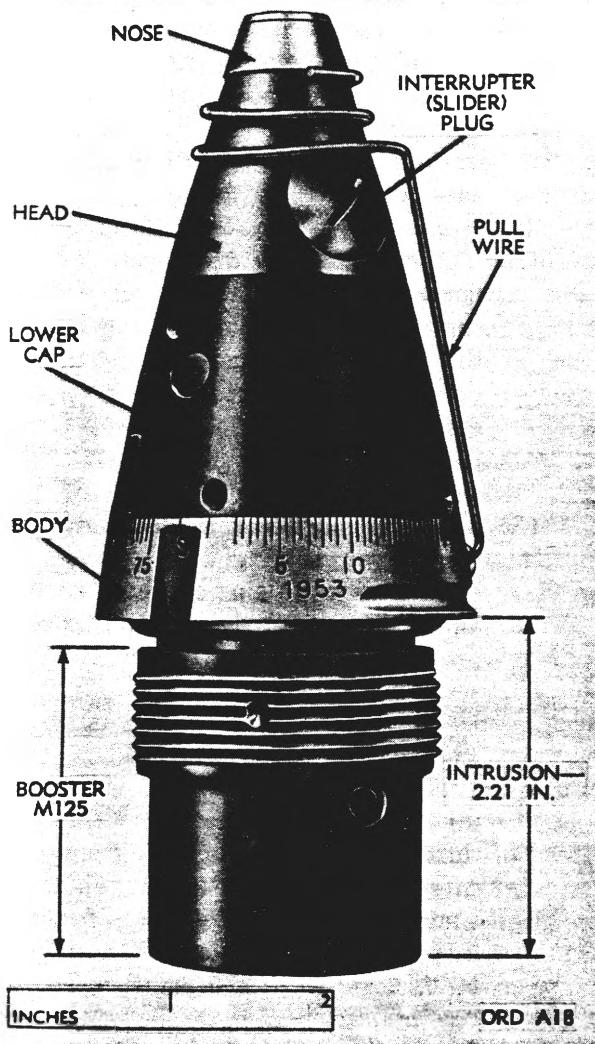

Figure 26. Fuze, mechanical time and superquick: M520.
*a. General.* This fuze (fig. 26) is a dual-purpose fuze which may be used as an alternative to point detonating fuze M51A5 in 4.2-inch high-explosive cartridge M329 or M329B1. It has a 75-second timing mechanism, a point detonator with superquick impact action, and a booster which has a delay arming clockwork mechanism for additional safety.
- (1) The movement assembly contains a clockwork mechanism which utilizes centrifugal force acting on two gear segment weights. Springs assist in overcoming inertia of the weights thereby insuring functioning of the fuze at relatively low as well as the higher rates of projectile spin.
- (2) The point detonator assembly which houses a superquick impact element, consists of the nose and the head of the fuze. The nose contains a point detonator firing pin and a support cup. The head contains an interrupter, detonator M22, and lead charge.
- (3) The lower cap (brass) contains provision for setting and releasing a timing disk of the arming mechanism. A setting slot on the exterior of the lower cap provides for fuze setting.
- (4) The aluminum body houses a percussion primer (M29A1) and a relay (M7). It has 0.5-second graduation up to 75 seconds. A safety line with the letter "S" in the setting slot indicates a point in setting at which the timing mechanism cannot function. The fuze is set "Safe" when shipped, that is, with the "S" registering with the indicator line on the lower cap. The setting slot is for fuze setting and the slots on the side of the body are for a fuze wrench when fitting the fuze to a projectile.